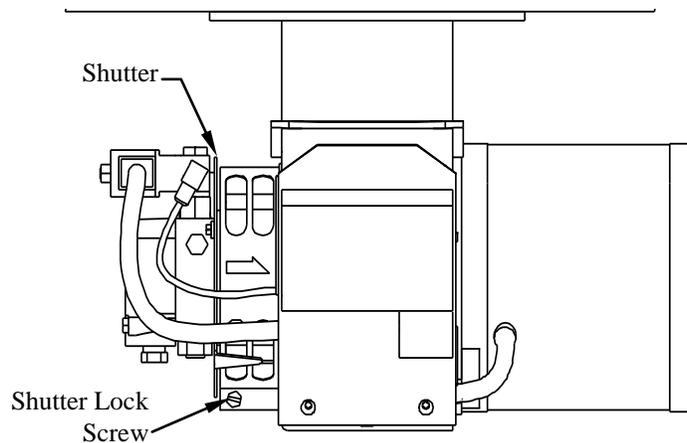

Figure 14
4. Attach the 12” garden hose piece with the funnel to the pump inlet. (Figure 14)
- a. Locate the shutter as shown in Figure 14 below. The shutter is a thin circular metal plate located on the outside of the air band. The shutter adjusts independently from the air band and is used to fine-tune the amount of intake air.